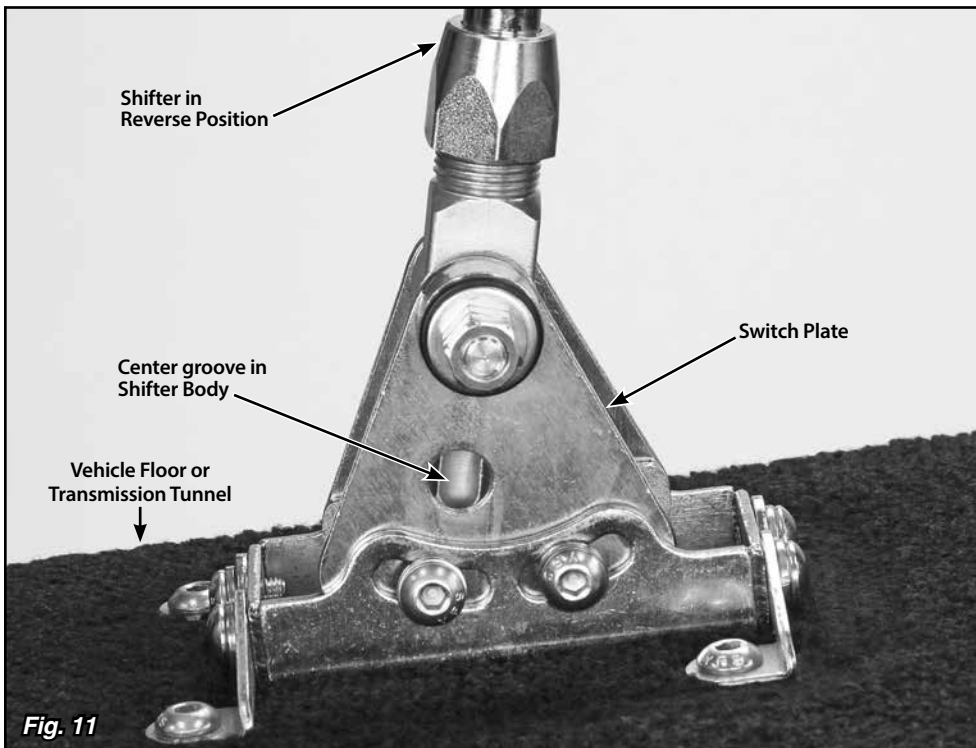
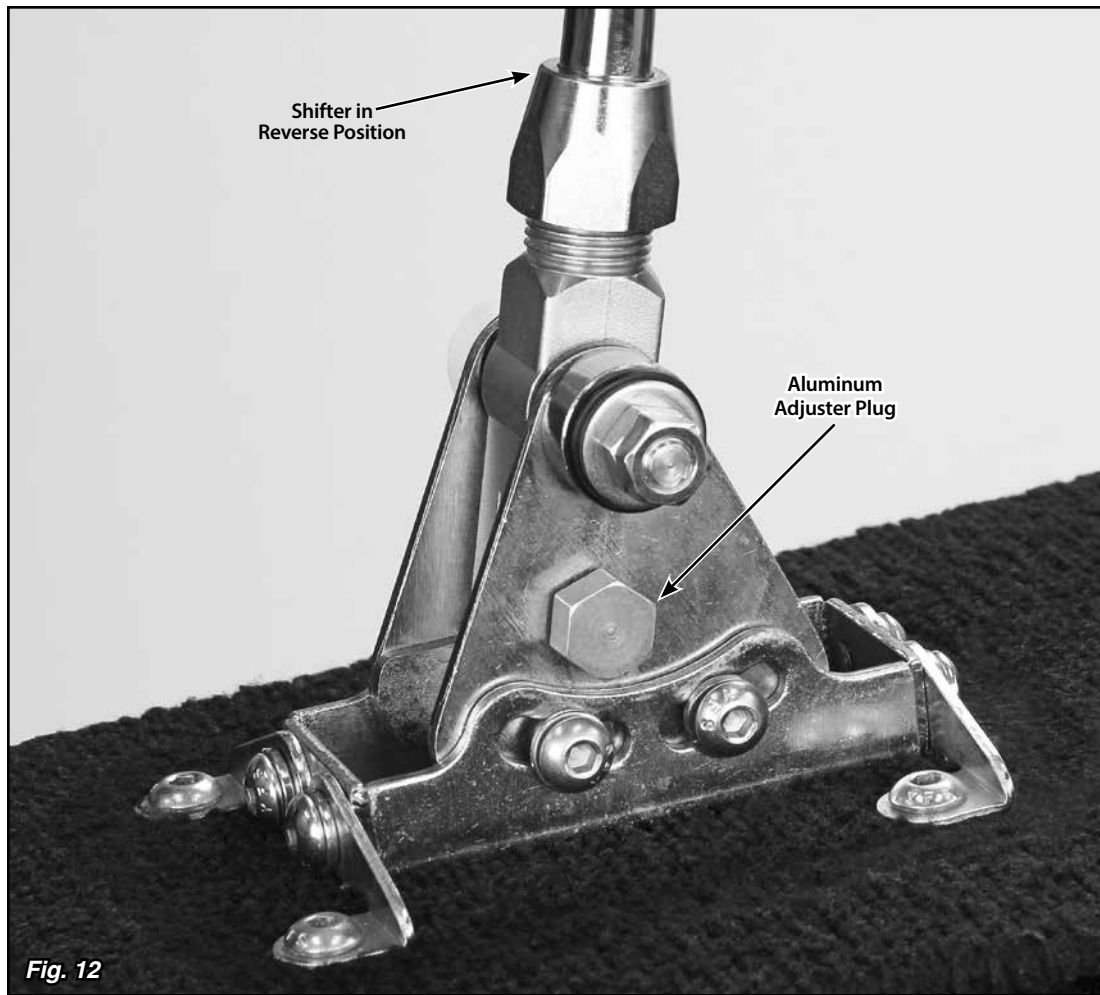

Fig. 11
Fig. 12
Step 17: Put the shifter into the Reverse position. Reposition the switch plate so that the hole in the switch plate lines up with the center groove in the shifter body. **Fig. 11** Screw the provided aluminum adjuster plug into the neutral safety switch opening. Wiggling the switch plate slightly forward and back while you are screwing the aluminum adjuster plug in will help get the shifter body centered on the adjuster plug. **Fig. 12**